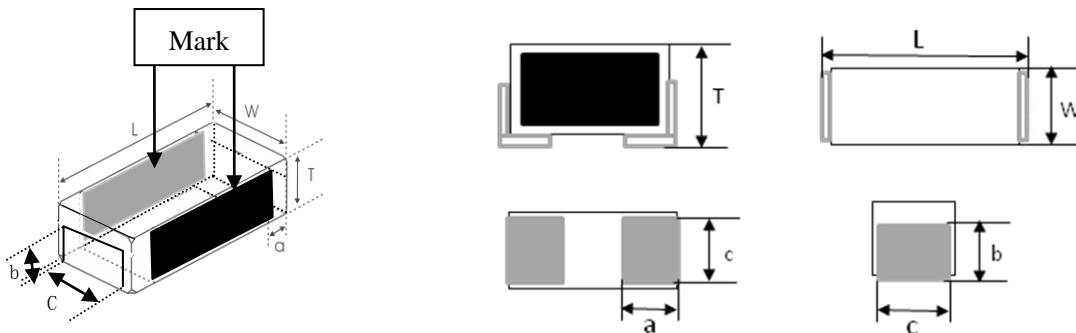

Fig. 4-1
- 1) Dimensions and recommended PCB pattern for reflow soldering: See Fig.4-1, Fig.4-2 and Table 4-1.